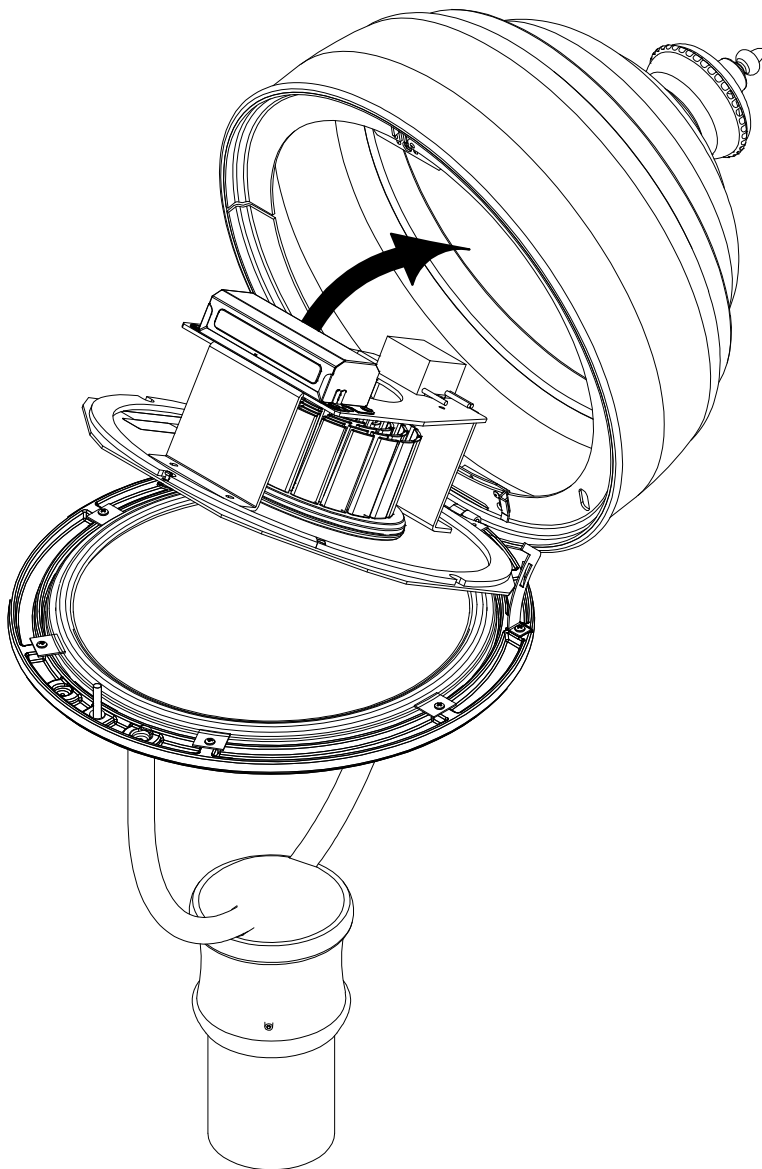

FIG. 5-1
1. Slide slot to reflector hinge and secure light engine to the fixture head with quarter turn fastener . (FIG. 5-1)